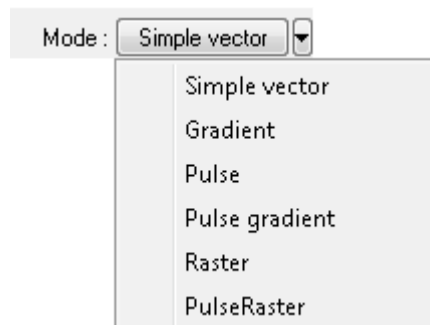

Fig. 12-51. Selecting the lithography mode
4. In the **Mode** drop-down list select the mode of raster lithography (Fig. 12-51):